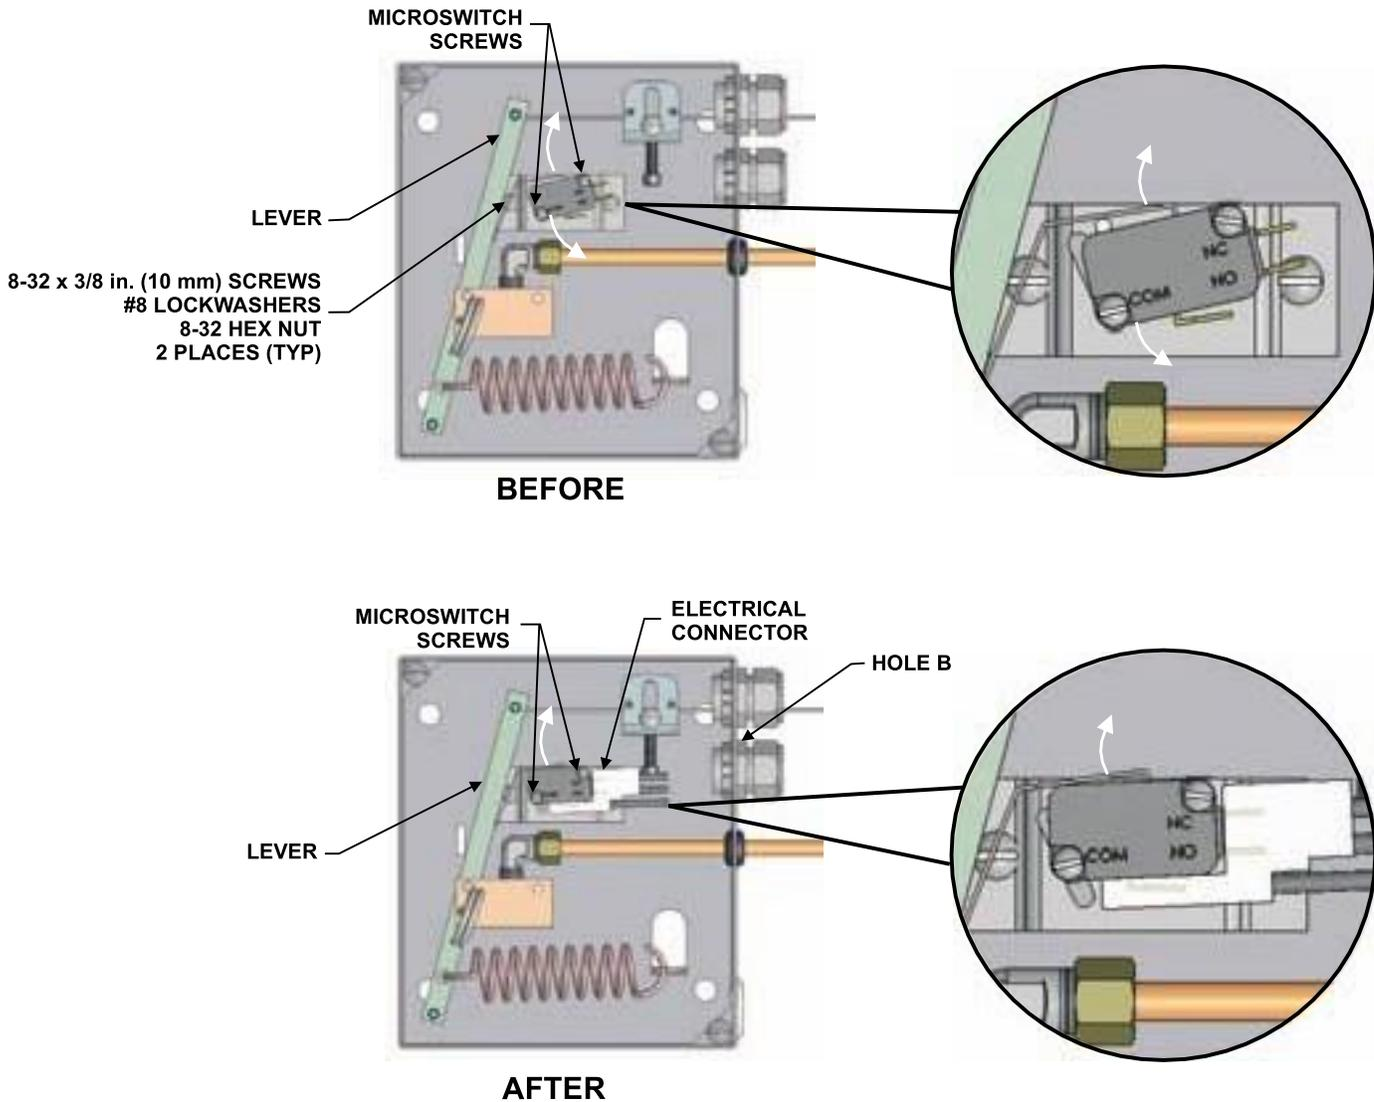

Figure 4-53. Dual SPDT Microswitch Installation
6. After tensioning the detection cable, rotate the microswitches toward the lever until you hear the microswitches click (Figure 4-53).
- Continue moving the microswitches toward the lever until the paddle on the microswitches just touches the top corner of the microswitch bodies (Figure 4-53). The microswitches are now in the "set" position.